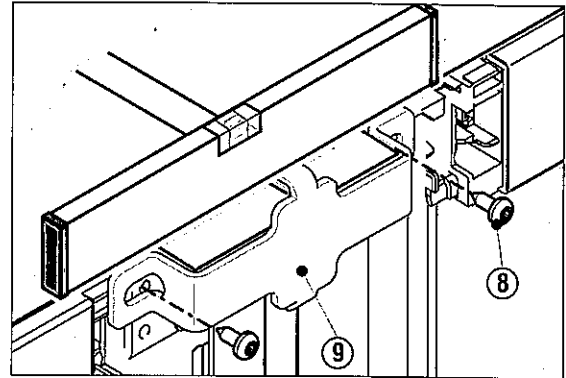

Fig. 5
- ▶ Press the appliances together and realign them and as you do so, using the screws Fig. 5 (8), screw on the large mounting bracket Fig. 5 (9). Possibly make preliminary holes with a baw-dawl or use a cordless screwdriver.